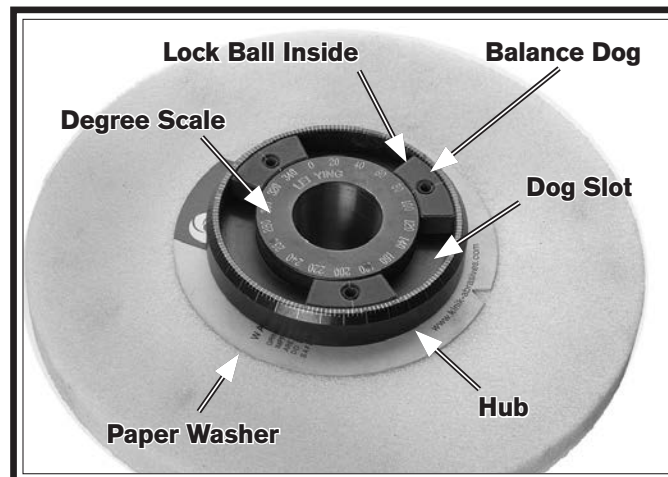

Figure 40. Grinding wheel hub.
4. Without letting any of the balance dogs or lock balls fall out of the hub, use a 2.5mm hex wrench to loosen the dogs and position them at the 0°, 120°, and 240° degree locations indicated by the degree scale on the hub (see **Figure 40**).